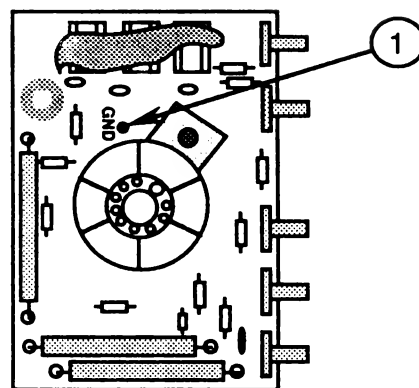

FIGURE 51
15. Reconnect the gray CRT ground wire to the CRT board (Figure 51, #1).